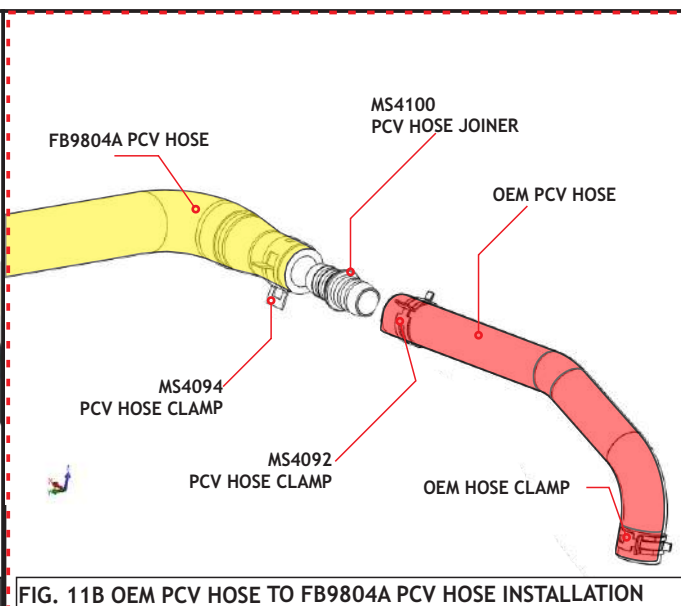

FIG. 11B OEM PCV HOSE TO FB9804A PCV HOSE INSTALLATION
5. Install the larger end of the shorter supplied MH9804A PCV hose on to the upper, outlet port, of the RCC351 Cathcan and tighten with a MS4091 hose clamp. Install the other end of the MH9804A PCV hose on to the supplied MS4100 PCV hose joiner, tightening with a MS4094 PCV hose clamp. Insert other end of MS4100 PCV hose joiner into the open end of the OEM PCV hose and tighten with a supplied MS4092 hose clamp as shown in Fig. 11B.